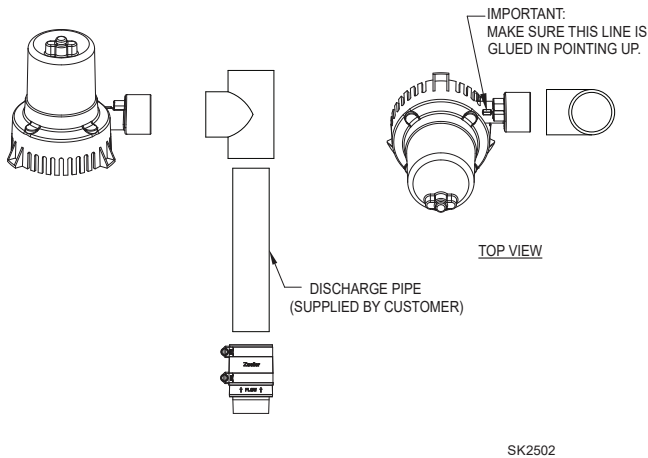

FIGURE 4
- Solvent weld DC pump to tee at a 30 degree angle as shown in Figure 4. Install in-line check valve into primary pump discharge.
- Determine the position of the DC pump and measure between the in-line check valve and tee. Use that measurement to cut discharge pipe. Solvent weld that piece first to the tee. Measure, cut & solvent weld any remaining discharge piping above the tee. Finally, connect the discharge pipe to the in-line check valve and tighten hose clamp. See Figure 4.
IMPORTANT To minimize risk of air lock, intake of DC pump must be set at a 30 degree angle above the intake of the primary pump. See Figure 4.